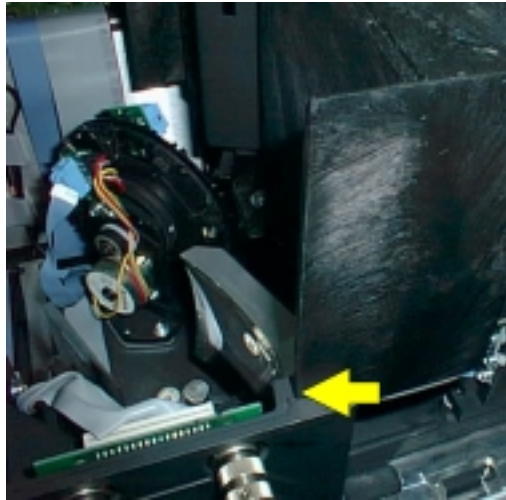

Figure 142 Locating the cover
9. Locate the right-hand side emission monochromator cover so that the front left edge locates in the groove at the right side of the central window assembly, as shown in Figure 142.